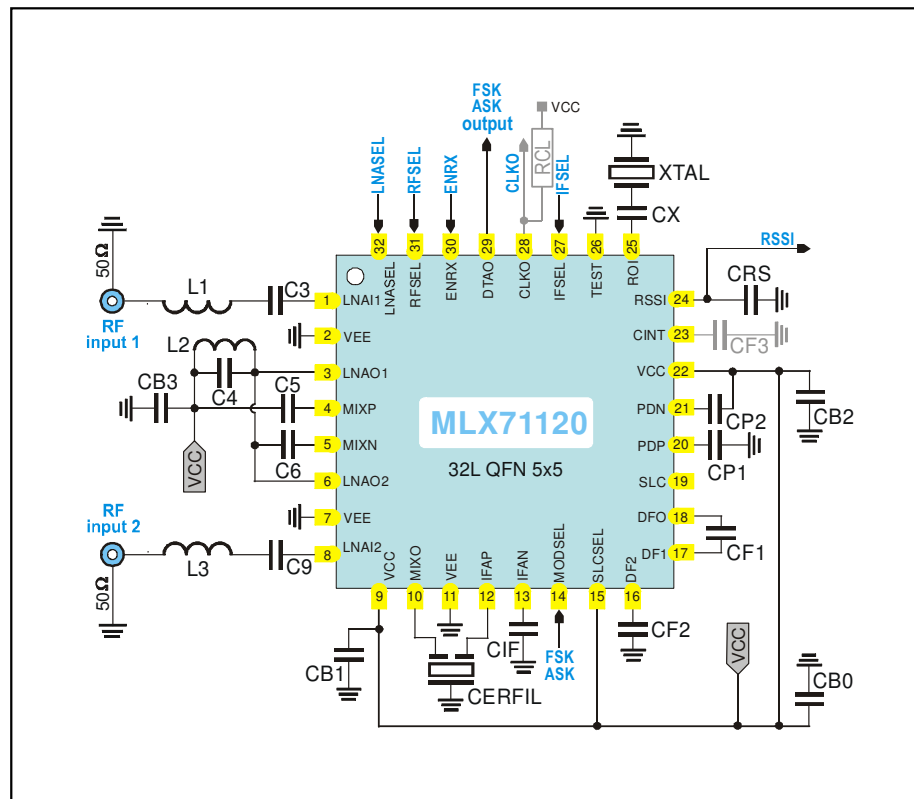

Fig. 10: Dual-channel circuit schematic, peak detectors activated
typical values at $T_A = 23\text{ }^{\circ}\text{C}$ and $V_{CC} = 3\text{ V}$, all parameters based on test circuits as shown Fig. 10
5.1.1 Test Circuit Component List for Figure 10